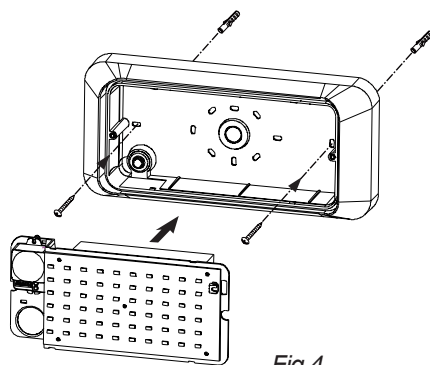

Fig.4
- Step6 Set the LED board on the base and adjust the DIP switch.(as Fig.4)